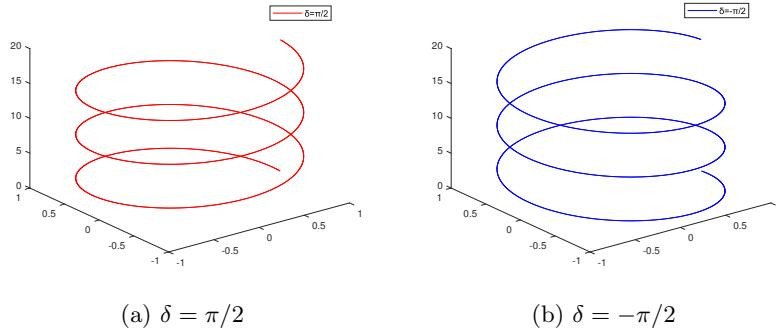

Figure 43
**Definition 3.8** (Circular polarised). In a circular polarised light,  $\delta = \pm\pi/2$ . For the wave formulated in equation 3.3 and 3.4, Both of them are travelling in the z direction, but the  $\theta = \pi/2$  one will clockscrew in the clockwise direction, the  $\theta = -\pi/2$  one will clockscrew in the anticlockwise direction. As illustrated in figure 43.